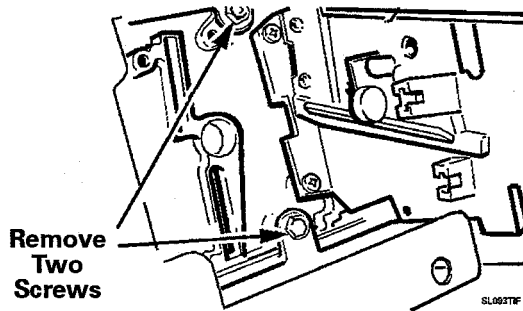

Figure 2-72
6. Remove two screws securing coin drop to mounting plate, *see Figure 2-72.*